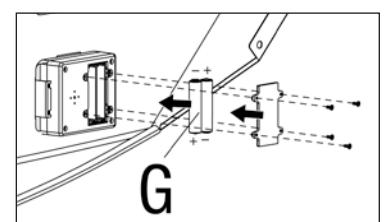

Figure 11
1. Remove the back cover off of the timer as shown. (See Figure 11)